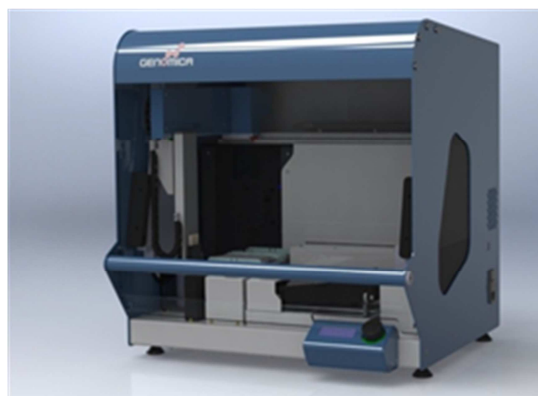

Figure 4. autoclart®
- autoclart® (Figure 4) The following equipment is needed for the automatic visualization phase. It enables the automatic visualization of up to 12 CS that means a total amount of 96 samples.